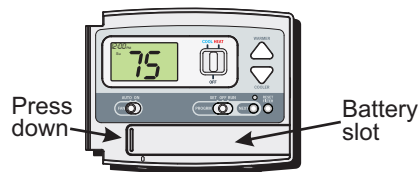
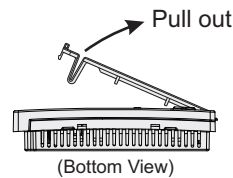

FIG. 1
FIG. 2
- 1 The batteries are easily accessible from the battery slot located on the front of the thermostat (fig. 1). To open the battery slot, press down on the battery cover (fig. 1) and pull out (fig. 2).